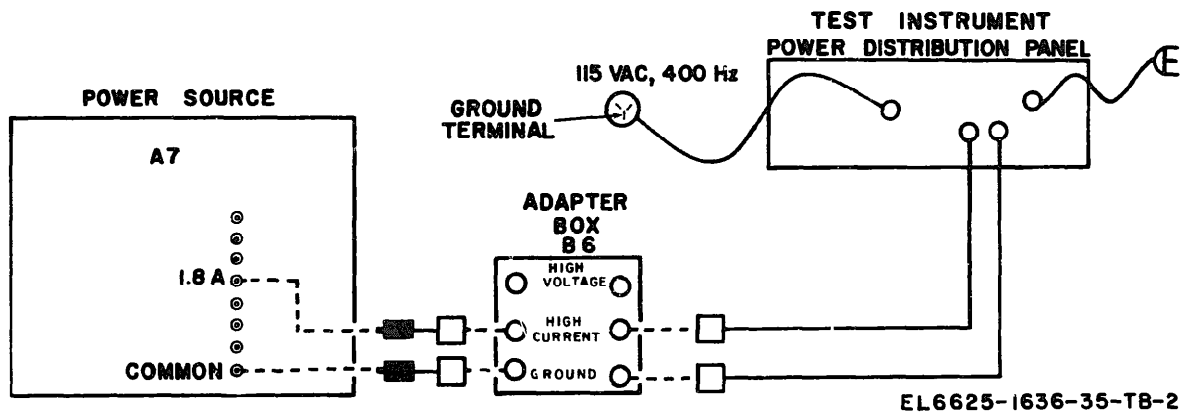

Figure 2 Typical 400 Hz power application.
- Connect TS-2354/ARM-109 power cord to 115/Vrms, 400 Hz source. Refer to figure 2 for typical hookup.